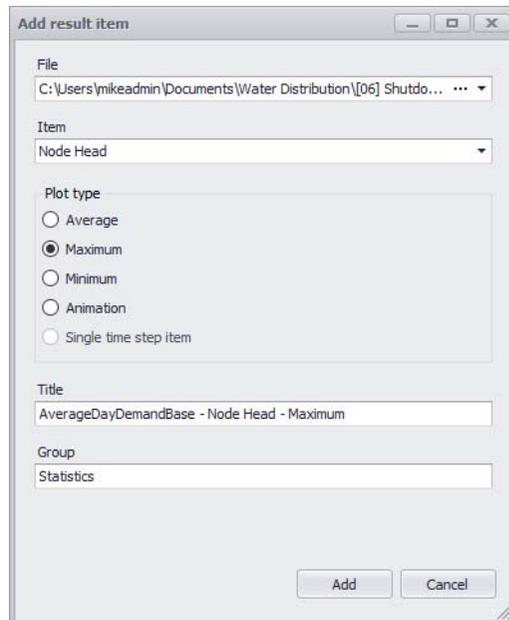

Figure 19.36 The 'Add result item' dialog where the result file and items to add to the profile plot are defined
- Specify the result file, item, and data type to add to the profile plot on the 'Add result item' dialog that appears (Figure 19.36).